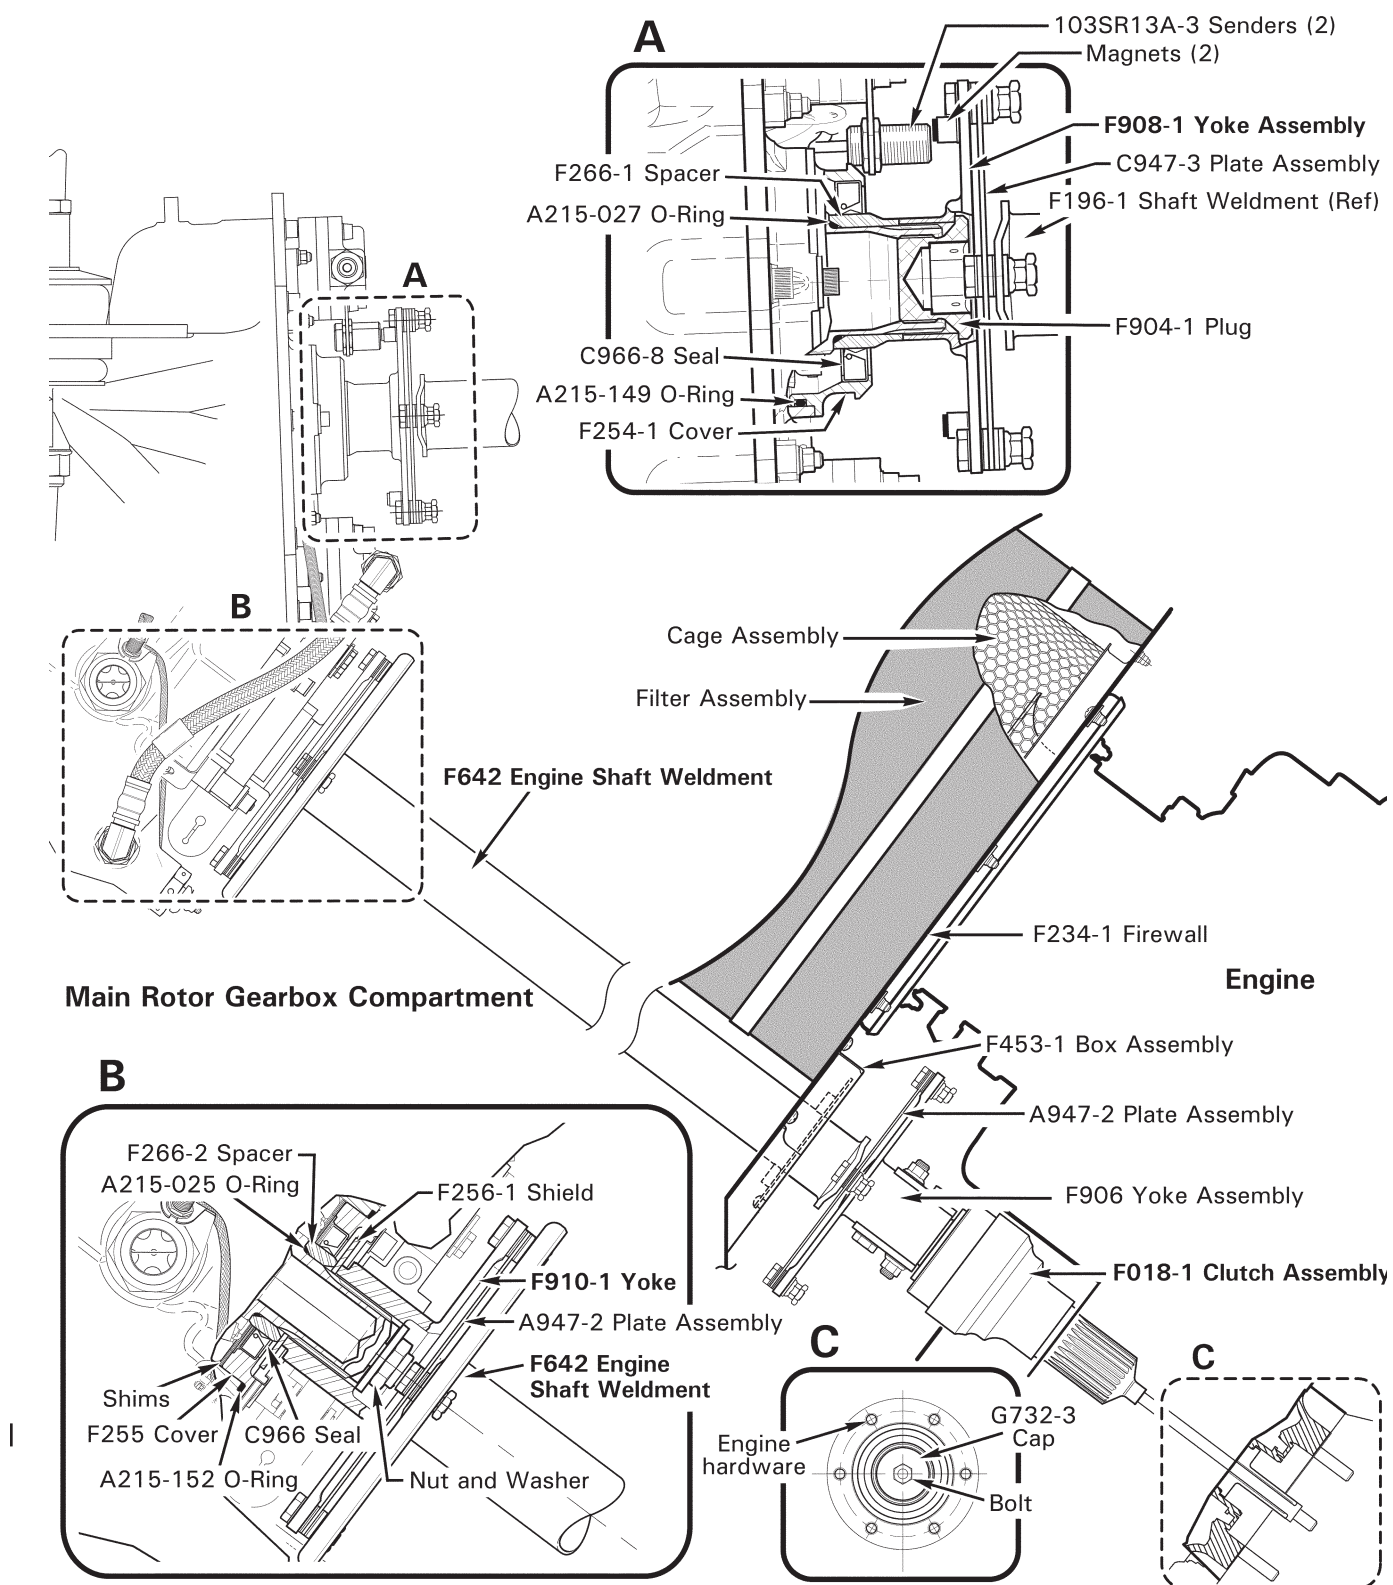

FIGURE 63-1 ENGINE DRIVELINE
3. Refer to Figure 63-1. Remove hardware securing F453-1 box assembly to F234-1 firewall.
1. Refer to Figure 63-1. Position F642 engine shaft weldment in helicopter, and install hardware securing shaft weldment to aft A947-2 plate assembly. Standard torque nuts and palnuts per § 20-32, and torque stripe per Figure 5-1.
2. Refer to Figure 63-1. If not previously accomplished, remove hardware securing forward A947-2 flex plate assembly to F910-1 (main gearbox) yoke and F642 (engine) shaft weldment forward flange. Remove flex plate, and temporarily support forward portion of shaft weldment.
2. Refer to Figure 63-1. Mark F906 yoke assembly and A947-2 plate assembly, to facilitate installation. Remove plate assembly, noting hardware removed.
1. Refer to Figure 63-1. Lubricate F018-1 clutch assembly splines and clamping face using A257-1, -9, or -12 before installing.
4. Refer to Figure 63-1. Remove hardware securing F908-1 and F910-1 yoke assemblies to plate assemblies, leaving plates attached to shaft weldments. Note hardware removed.
3. Refer to Figure 63-1. Remove forward C947-3 flex plate assembly, noting hardware removed. Remove intermediate C947-3 flex plate assembly, noting hardware removed. Carefully maneuver fan shaft aft to access main gearbox's F908-1 yoke.
1. Refer to Figure 63-1. Remove F266-1 spacer and replace A215-027 o-ring, as required. Reinstall spacer.
3. Refer to Figure 63-1. Remove hardware securing A947-2 (forward) plate assembly to F910-1 yoke assembly, and A947-2 (aft) plate assembly to F642 shaft weldment, noting hardware removed. Support weldment to allow clearance for yoke removal.
1. Refer to Figure 63-1. Lubricate new A215-025 O-ring with A257-22 oil and install on pinion shaft.
4. Remove hardware and spacers securing brake assembly mounting bars to gearbox cartridge. Remove G033-1 brake assembly F256-1 shield (see Figure 63-1).